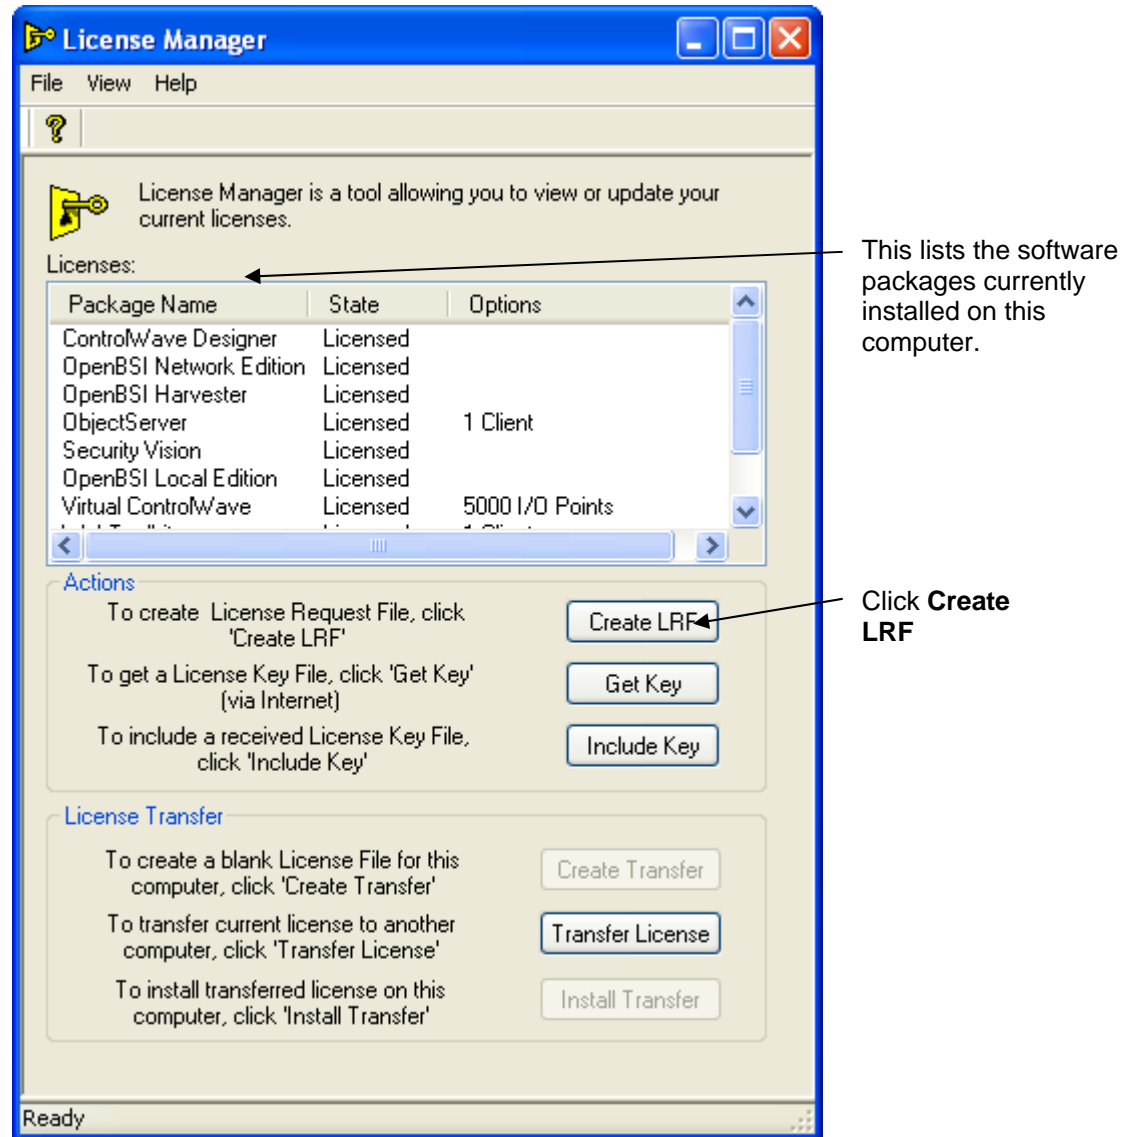

Figure 2-8. License Manager
3. The License Manager examines your PC, and identifies in a list, which OpenBSI software packages are installed on this computer (see *Figure 2-8*). Any package that is not registered shows as **Trial** in the **State** field. Click **Create LRF** to generate a License Request File (*.LRF) and save the file on your PC. **Leave the License Manager session running**.